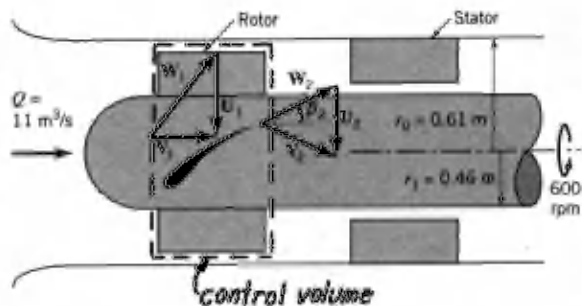

FIGURE P5.15R
5.15R (Moment-of-momentum) The single stage, axial-flow turbomachine shown in Fig. P5.15R involves water flow at a volumetric flowrate of  $11 \text{ m}^3/\text{s}$ . The rotor revolves at 600 rpm. The inner and outer radii of the annular flow path through the stage are 0.46 and 0.61 m, and  $\beta_2 = 30^\circ$ . The flow entering the rotor row and leaving the stator row is axial viewed from the stationary casing. Is this device a turbine or a pump? Estimate the amount of power transferred to or from the fluid.